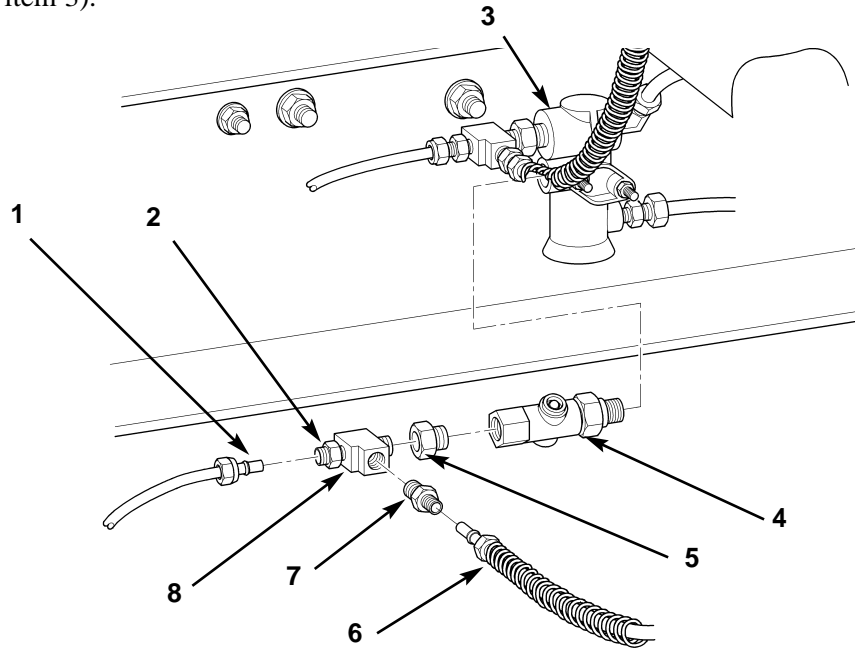

Figure 2. Quick-Release Valve.
4. Disconnect trailer brake tube (figure 2, item 6) from adapter (figure 2, item 7) and remove adapter (figure 2, item 7) from tee (figure 2, item 8).
5. Disconnect tube (figure 2, item 1) from adapter (figure 2, item 2) on tee (figure 2, item 8).
6. Remove tee (figure 2, item 8) and reducer bushing (figure 2, item 5) from quick-release valve (figure 2, item 4) and remove quick-release valve (figure 2, item 4) from tractor protection valve (figure 2, item 3).
1. Install quick-release valve (figure 2, item 4) on tractor protection valve (figure 2, item 3) and install reducer bushing (figure 2, item 5) and tee (figure 2, item 8) on quick-release valve (figure 2, item 4).
2. Connect tube (figure 2, item 1) to adapter (figure 2, item 2) on tee (figure 2, item 8).
3. Install adapter (figure 2, item 7) on tee (figure 2, item 8) and connect trailer brake tube (figure 2, item 6) to adapter (figure 2, item 7).